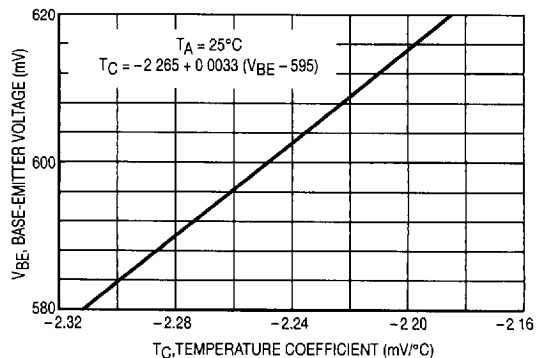

Figure 3. Temperature Coefficient versus Base-Emitter Voltage
| Dependence of T _C on V _{BE} @ 25°C ⁽⁴⁾ (Figure 3) | ΔT _C /ΔV _{BE} | — | 0.0033 | — | mV/°C mV |
- b. If VBE (nom) is less than or greater than 595 mV determine TC from the relationship described in Note 4. TC = -2.265 + 0.0033 (VBE - 595) or see Figure 3.